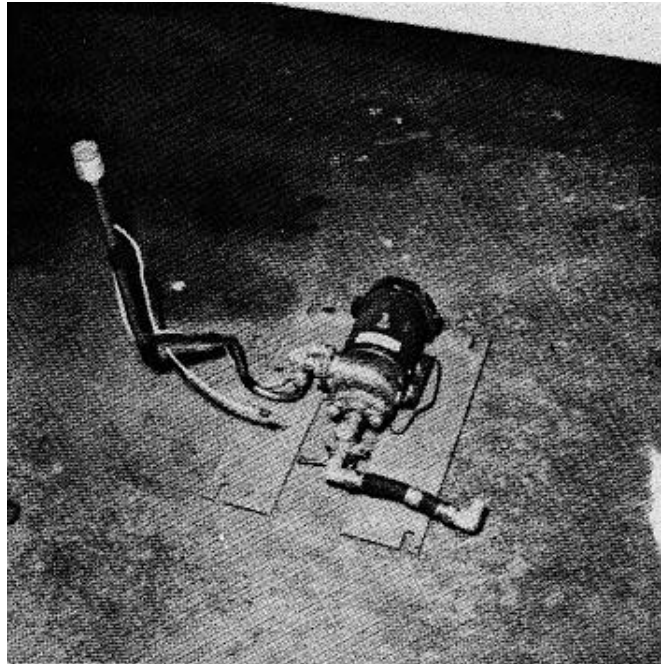

FIGURE 11-4.
a. Turn the shut-off valve located at the pump under the unit (see figure 11-4).
b. Disconnect electrical wiring, pressure and suction lines (see figure 11-4).